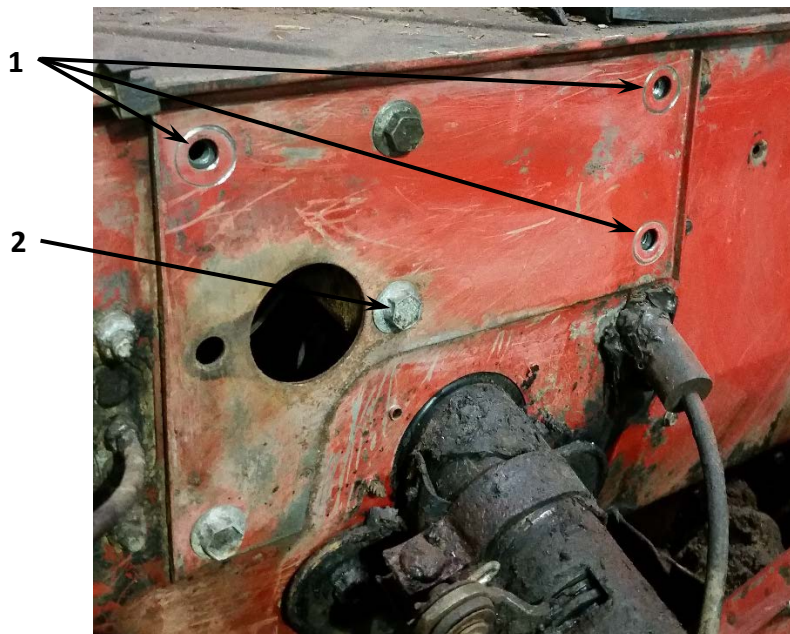

Figure 1 – Mounting Plate Prior Ready for Installation
2. Using Figure 1 below as a guide, it is necessary to remove hardware from the factory mounting plate and reinstall some hardware where the master cylinder was removed. The holes labeled as "1" below should have hardware removed. The hole labeled as "2" should have a bolt re-installed in it.